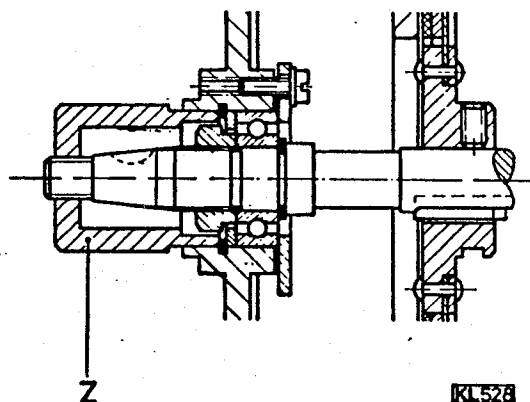

Fig. 7
Screw centering sleeve (Z) (part no. 300616) onto the shaft to its stop (figure 7).